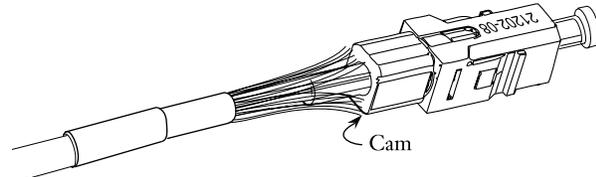

Figure 5-51
**5.8-10** Hold the cable and slide the crimp ring back along the cable jacket to free the aramid yarn. Flare the yarn around the buffered fiber (Figure 5-51).